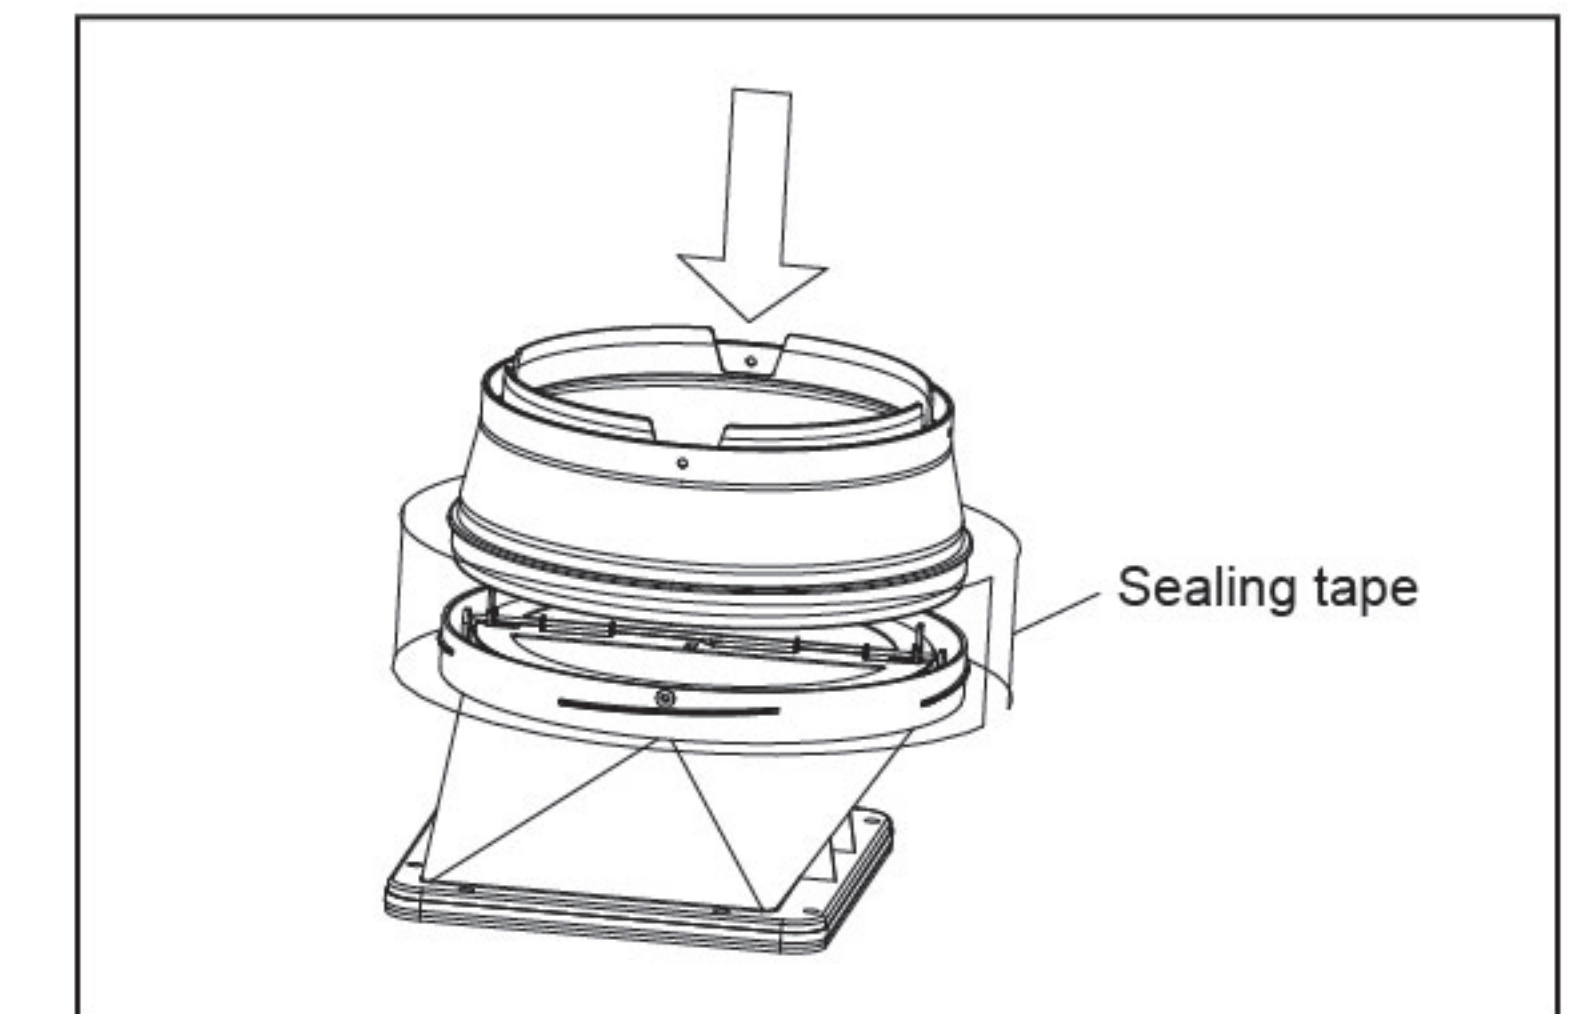

fig11
- Remove the outlet housing connecting rings from the plastic packaging bag of the smoke tube, put one end of the large diameter on the outlet housing, and fix and seal the outlet housing and the outlet housing connecting rings with Sealing tape. (fig11)